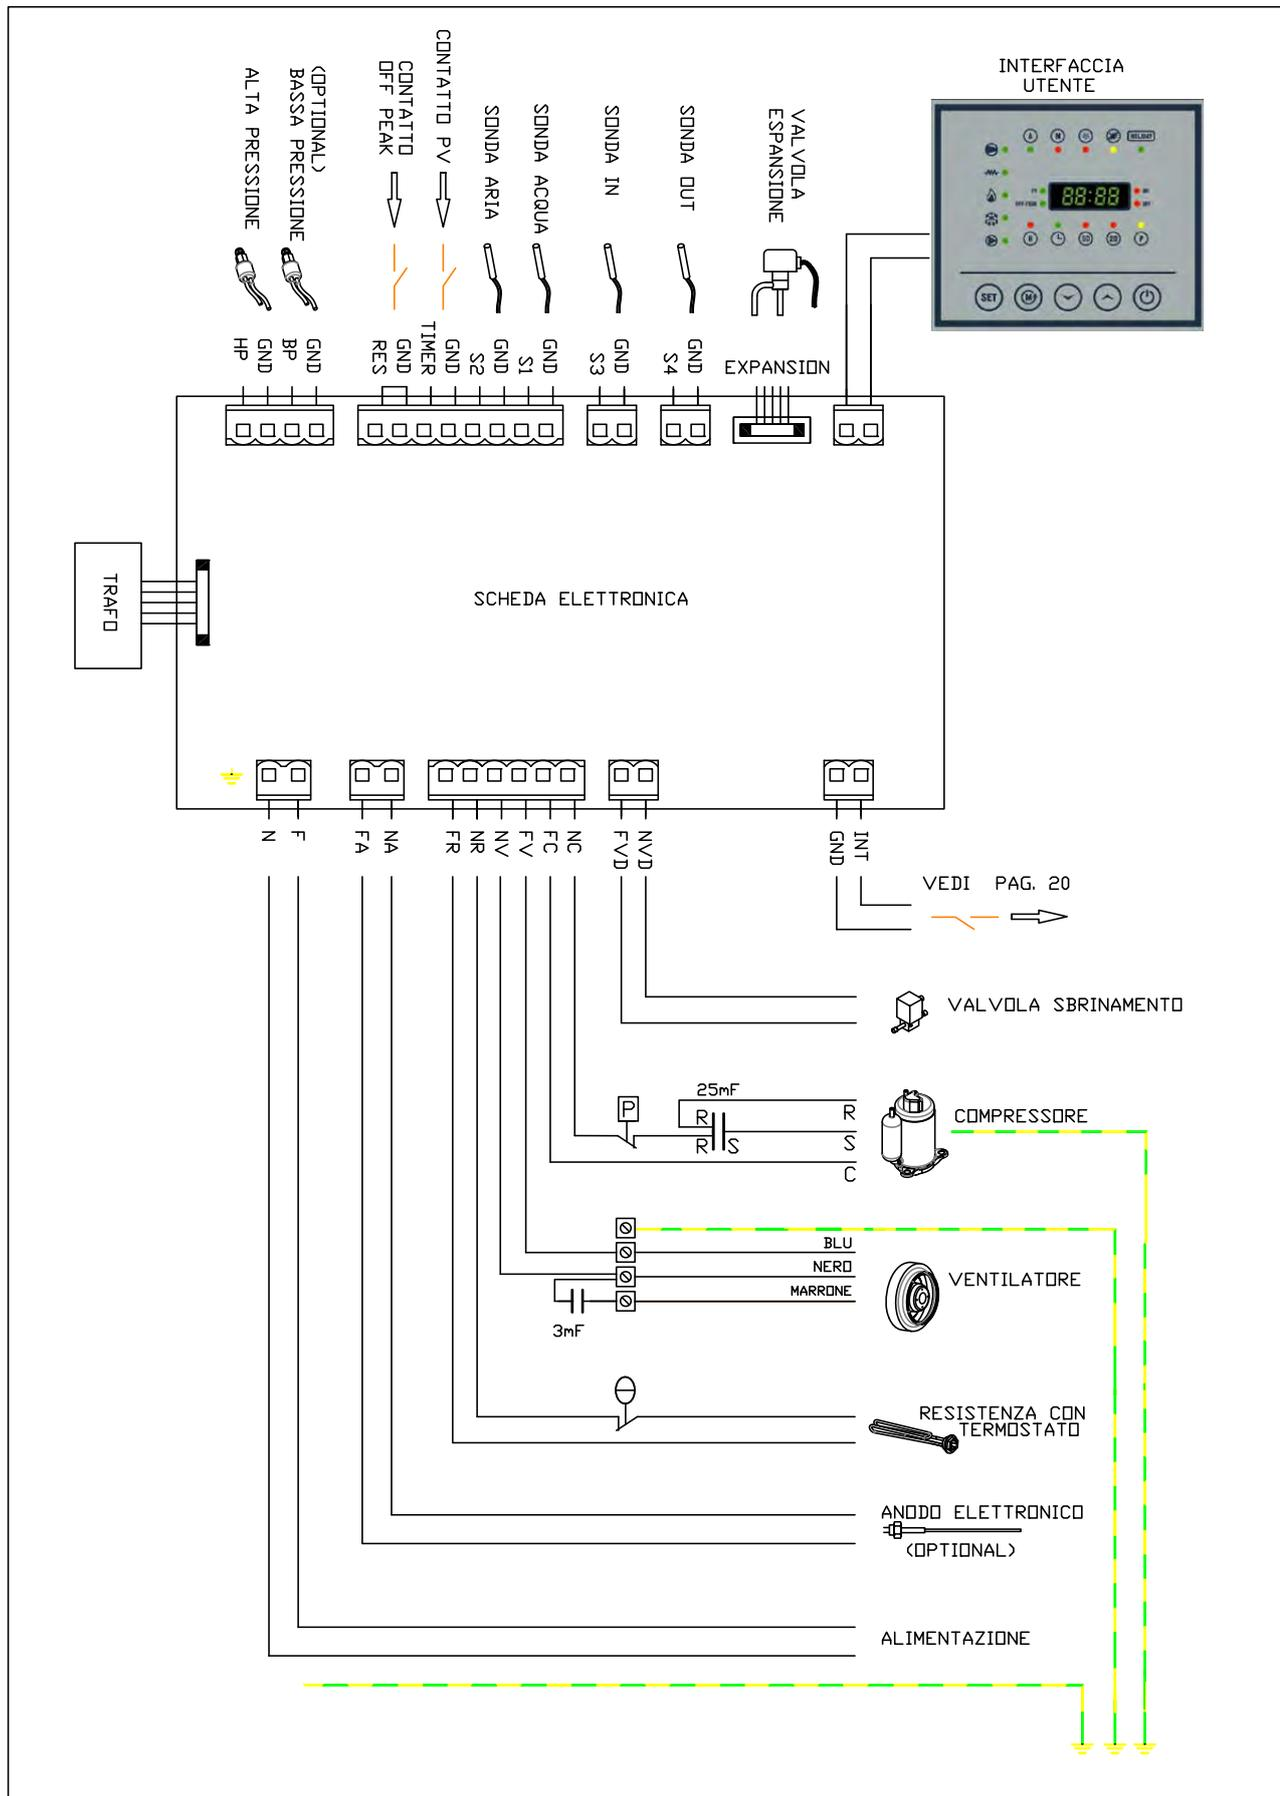

fig. 10
SCHEDA BASE (FIG. 10)
**INGRESSI/USCITE SCHEDA ELETTRONICA (FIG.10)****INGRESSI DIGITALI**